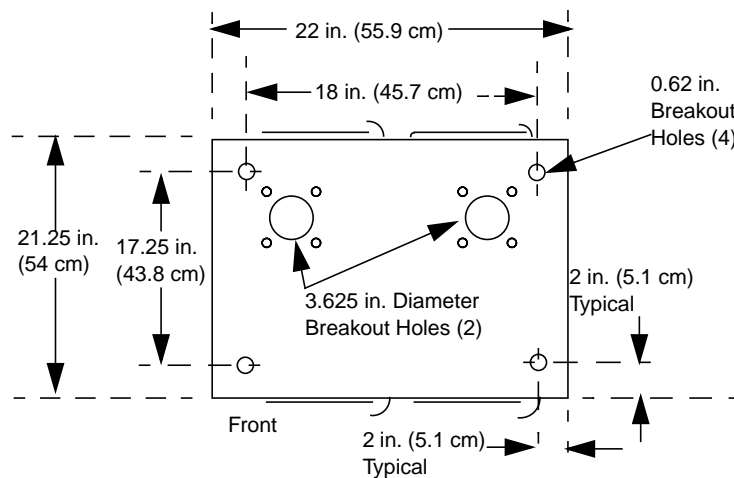

Figure 3-6: Drilling Template for Base of a 25-in. Station Cabinet
- Base mounting (see Figure 3-6)
- 25-in. cabinet (see Figure 3-6)